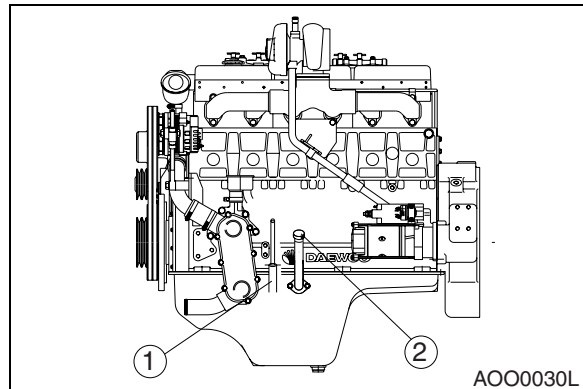

Figure 5 (S/N 3001 thru 4000)
2. Remove engine oil dipstick (1, Figure 5). Oil level must be between "LOW" and "FULL" marks.
3. To add oil, remove engine oil fill cap (2, Figure 5).